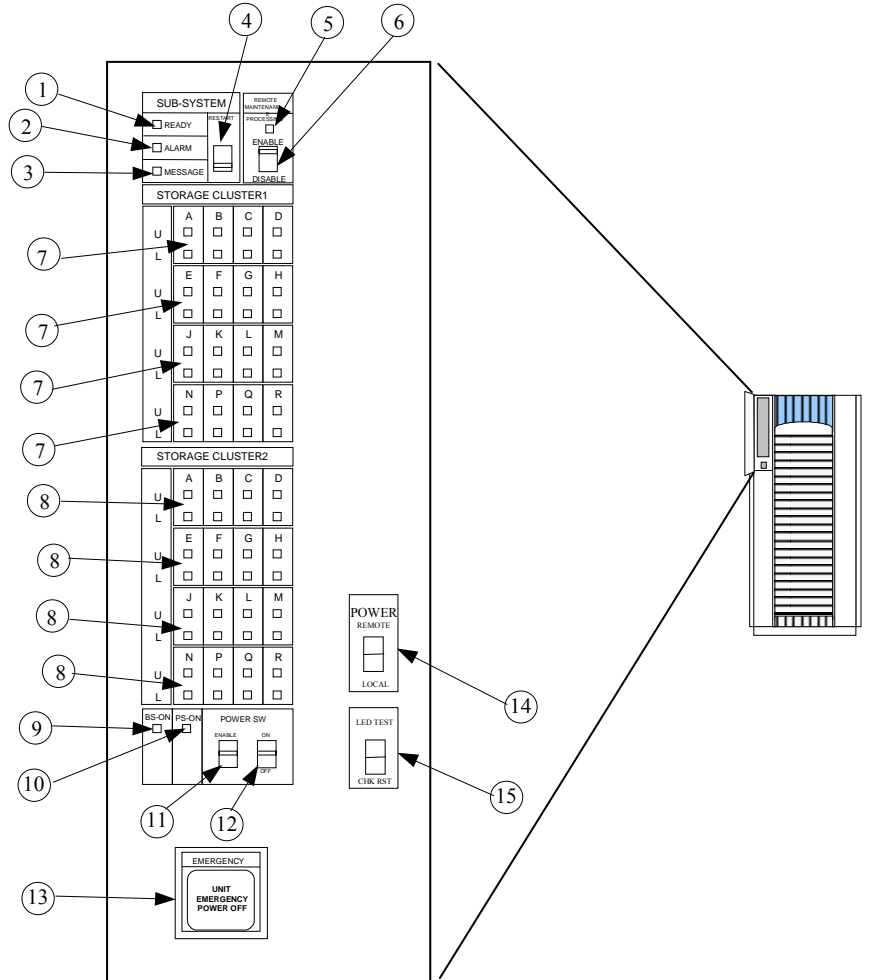

Figure 11. Control panel
Figure 11 and Table 11 on page 58 show the control panel and its functions, respectively.
1. Move the ENABLE/DISABLE switch to the ENABLE position. Move the PWR ON/OFF switch to the PWR ON position. (Figure 11 on page 57, item 11/12)
The BS-ON (Figure 11 on page 57, item 9) will turn amber and the PS ON LED (Figure 11 on page 57, item 10) will turn green.
The CHANNEL LED (Figure 11 on page 57, item 7) will light green for every adapter installed.
The MESSAGE LED (Figure 11 on page 57, item 3) may turn amber, if your disk array is not configured for automatic maintenance notification, signifying a SIM was generated (because the disk array went down unexpectedly).
Finally, the READY LED (Figure 11 on page 57, item 1) will light green signifying the system is ready. Powering on the disk array may take up to 10 minutes, depending on the number of disks installed in the disk array. Power-on is complete only when the READY LED turns green.
The disk array will automatically restart and return to service when power is restored. To enable this feature, place the ENABLE/DISABLE switch in the ENABLE position and the PWR ON/OFF switch in the PWR ON position. (Figure 11 on page 57, item 11/12). When power is restored, your disk array will restart and the following LED power sequence will occur:
Finally, the READY LED (Figure 11 on page 57, item 1) will light green when the system is ready, which may take up to 10 minutes, depending on the number of disks installed in the disk array.